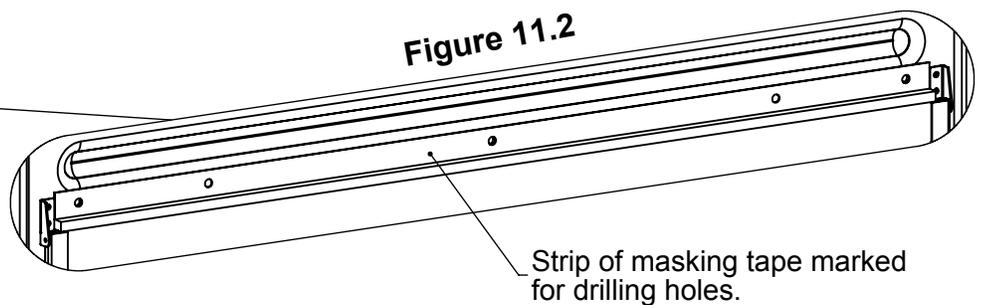

Figure 11.2
Step 3: Place a strip of masking tape along the top of the window gasket on the inside of the blind, as seen in Figure 11.2. Measure to find the center location in between the hinges and mark it on the tape. Make sure that the mark is also vertically centered in between the foam and the rib in the blind, as shown in figure 11.2. If the shade is installed too high, then it will rest against the rib on the outside of the blind and not sit flush against the outside of the blind. Once the center point is found, measure to the center of the outside holes, and mark them. See figure 11.3 for drilling locations. Holes "BB" will be drilled for 28" window shades & Holes "CC" will be drilled for 39" window shades. It's good to also measure each window shade just to double check the hole locations before drilling. Once holes are measured and marked, drill the (3) holes you will need using a 5/16" drill bit.